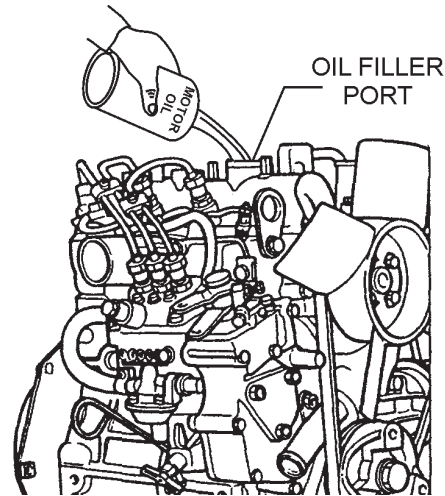

Figure 11. Engine Oil Filler Port
5. If the engine oil level is low (Figure 10C), remove the oil filler cap (Figure 11) and fill to a safe operating level (max) as indicated by the dipstick (Figure 10A).